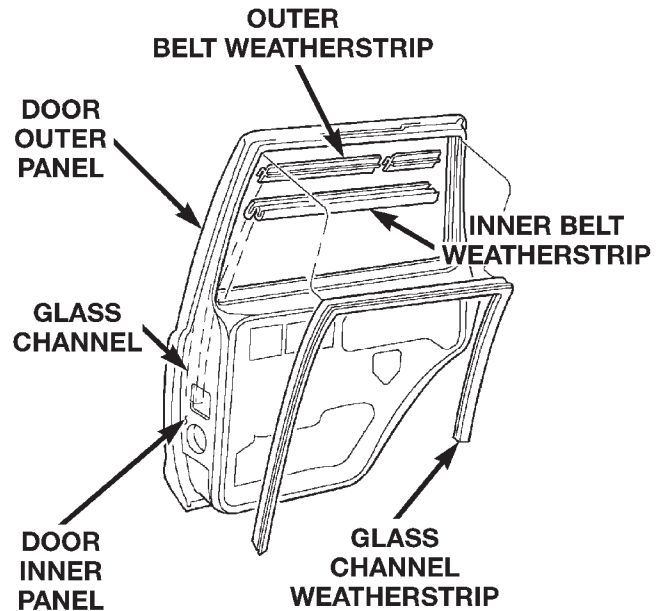

Fig. 54 Rear Door Inner/Outer Belt Weatherstrip
- (1) Roll window down.
- (2) Remove door trim panel.
- (3) Pull up on the rear corner of the weatherstrip and lift from the door (Fig. 54).
- (2) Using a trim stick, pry up the rear outer corner of the weatherstrip.
- (3) Slowly and carefully, lift the weatherstrip up to separate from the door (Fig. 54).
(4) Starting at rear corner, peel weatherstrip from around door frame (Fig. 54).